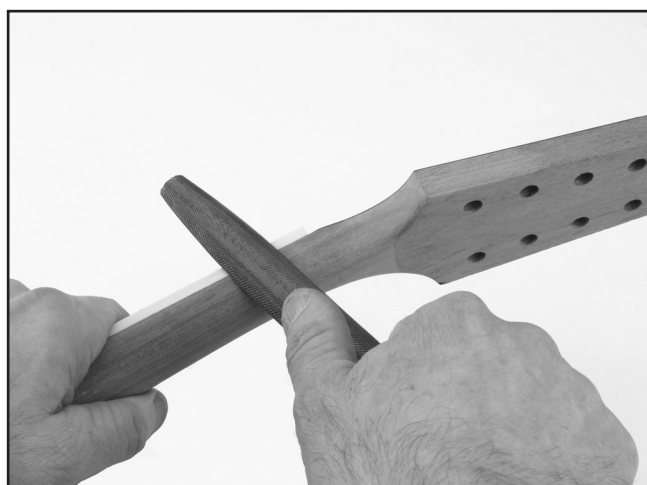

Figure 11. Shaping the neck.
2. Use a half round bastard file to shape the neck until it matches the width of the fretboard (**Figure 11**).